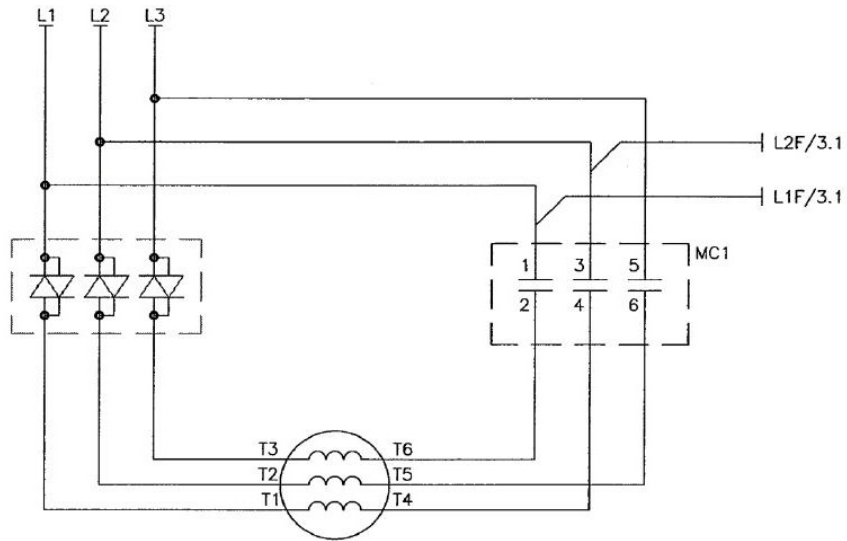

Figure 6 - Electronic Starter Pump Motor Wiring Diagram
- Verify the correct motor wiring. See Figure 6.